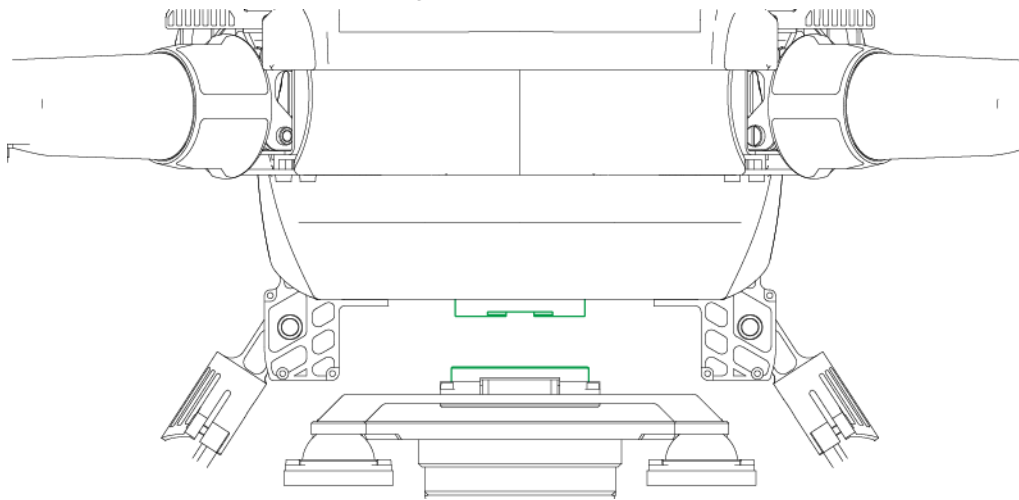

Figure 3-1
Step 1 Insert data cable interface at the bottom of aircraft into the interface at the top of shock absorber board, as shown in Figure 3-1.